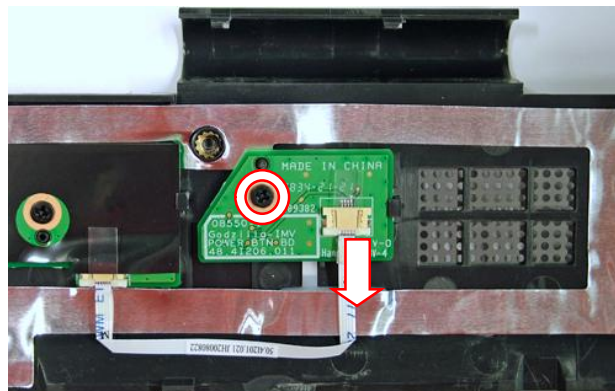

Fig. 27 Location of the power button board.
2. Remove the screw securing the power button board to the keyboard cover (see *Fig. 27*).